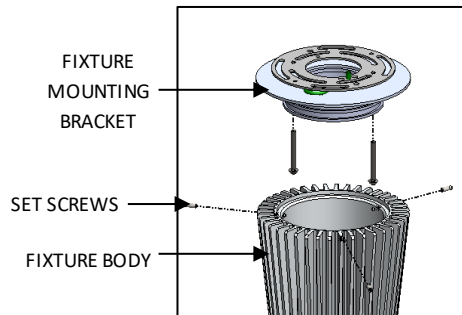

FIG. 14 – FIXTURE BODY ASSEMBLY
6. Slide FIXTURE BODY over MOUNTING BRACKET. Tighten SET SCREWS to secure FIXTURE (make sure that all the SET SCREWS engage the MOUNTING BRACKET to safely hold the FIXTURE) as shown below in FIG.14.